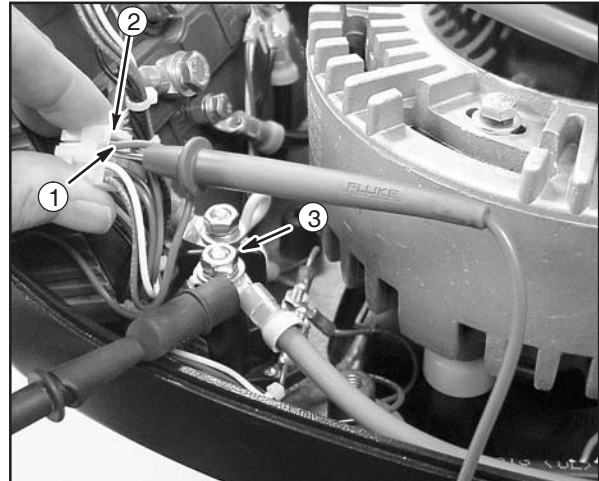

Fig. 37
2. Insert either meter lead into #2 pin receptacle (red wire) (1) in motor harness as shown.
**NOTE:** #2 pin receptacle is next to #1 pin receptacle; green wire (2).
3. Attach other meter lead to #1 contactor post (3), Fig. 37.